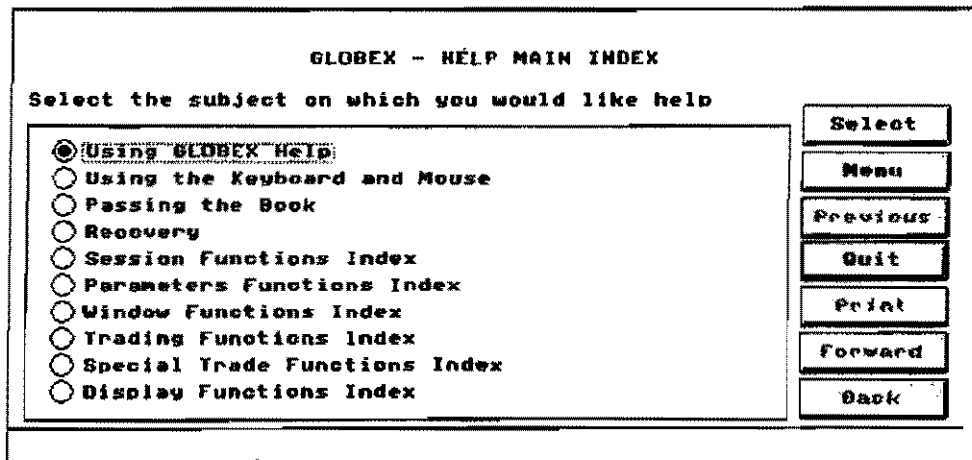

Figure 2.5 Help Main Index
To request help, click on **Help** in the menu bar or press . The GLOBEX Help Main Index shown in Figure 2.5 displays. Choices on the Main Index include indexes, which list further choices for a subject, and subject titles such as Passing the Book.
4. Choose GLOBEX – Main Index. The index shown above in Figure 2.5 displays.